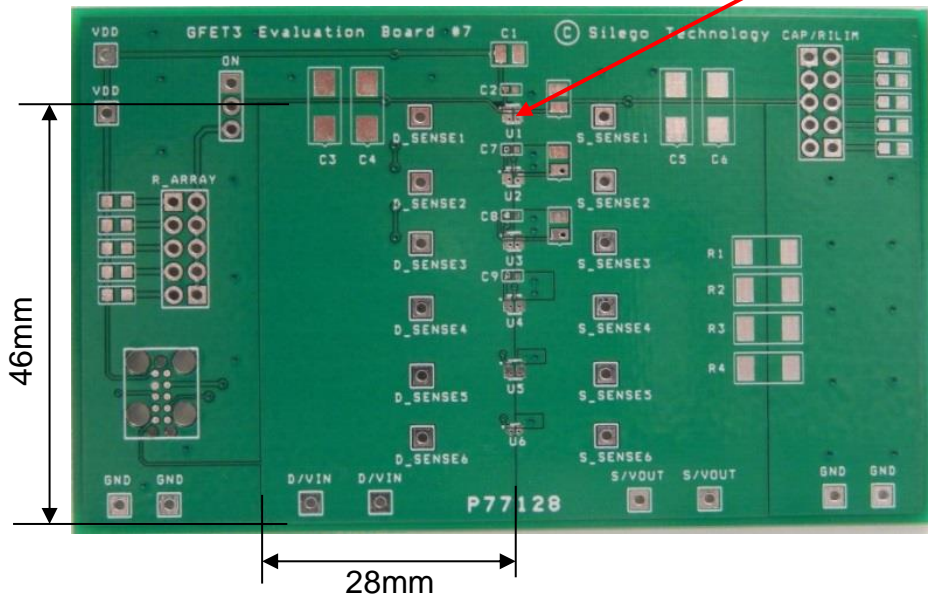

Figure 3. SLG59M1457V Evaluation Test Board
2.3. The D/VIN and S/VOUT pins carry significant current. Please note how the D/VIN and S/VOUT pads are placed directly on the power planes in Figure 3, which minimizes the $R_{ds(ON)}$ associated with long, narrow traces. The D/VIN, S/VOUT and GND pins dissipate most of the heat generated during high-load current condition. The layout shown in Figure 3 is illustrating a proper solution for heat to transfer as efficiently as possible out of the device.